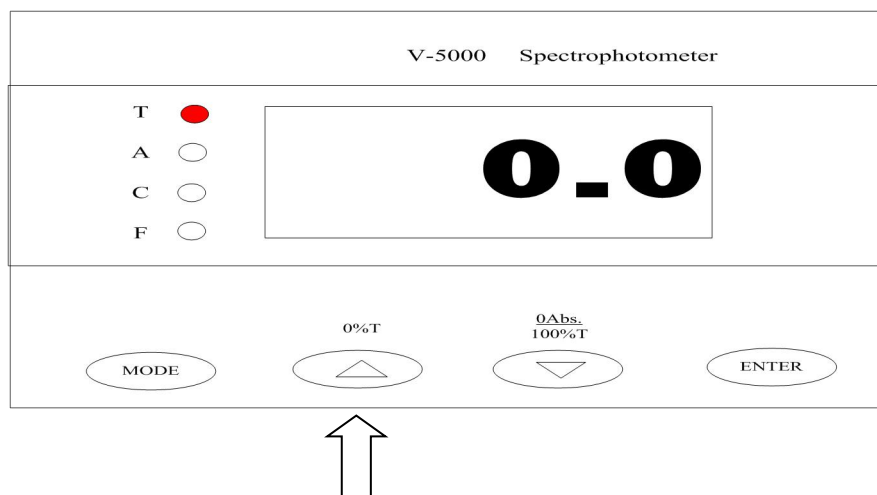

Fig.1-6
- a. To set Zero(Get Dark Current). It is effective only in **T** mode. Insert the Black Block into the cuvette holder, close the sample compartment lid, then pull it into the light path. Press this key to calibrate the Dark Current, and it will show 0.0. (Fig.1-6)